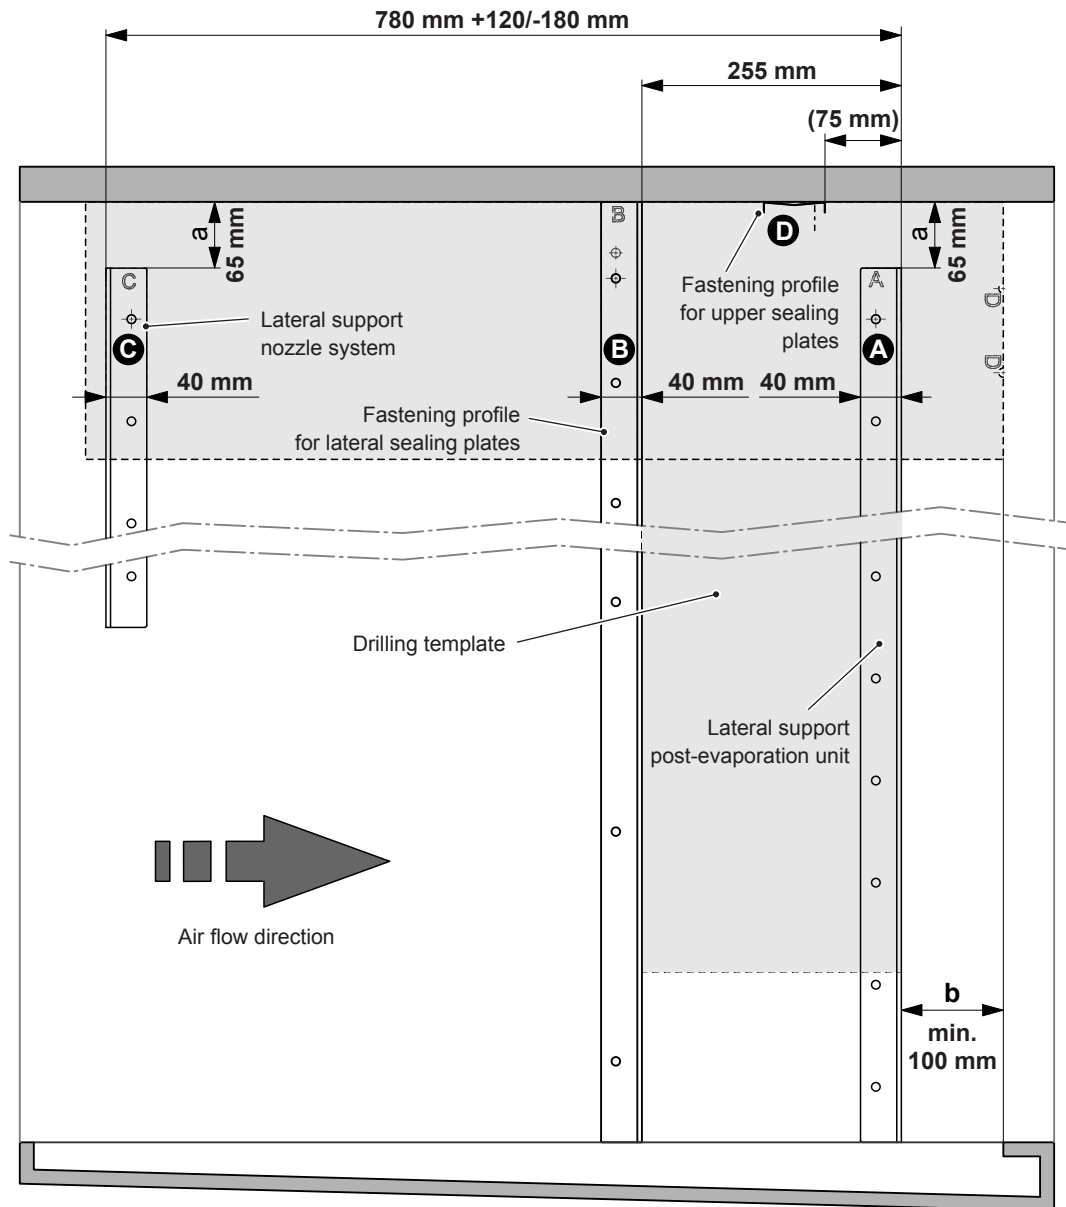
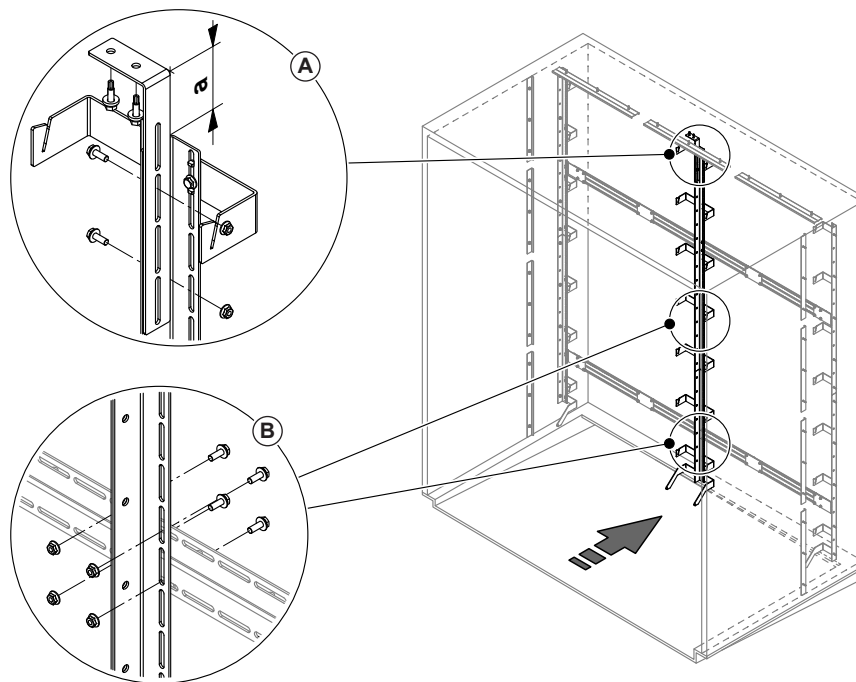

Fig. 5: Positioning of the fastening elements (side view)
Fig. 12: Mounting the vertical support(s)
- If necessary, loosen the two screw connections fixing the angle bracket(s) to the vertical support(s) and position the angle bracket(s) in such a manner that the distance between the leg of the angle bracket and the upper edge of the vertical support has the same distance as the upper edge of the two lateral supports have to the duct ceiling (see Fig. 5 and detail A in Fig. 12). Fasten the two screw connections again.
- Mark horizontal position(s) of the vertical support(s) on the cross members (one vertical support is always in the middle of the duct, several vertical supports must be evenly allocated over the duct width). From the front (view in air flow direction) attach the vertical support(s) with the angle bracket on top to the cross members, then shift upwards until it comes to a stop and fix the vertical support(s) four screws M6 x 16 mm and nuts to the cross members (see detail B in Fig. 12). Slightly fasten the screw connections only.
- Fix angle bracket of the vertical support(s) with two self-tapping screws 6.3 x 25 mm to the duct ceiling (see detail A in Fig. 12).
8. Mounting the diagonal stiffeners (see also frame construction overviews in Fig. 5):